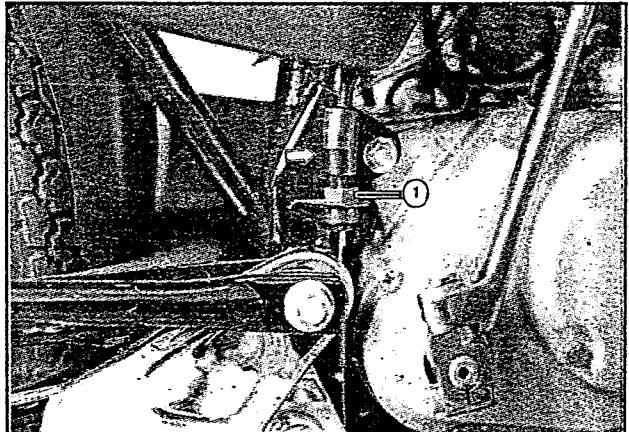

Fig 2.28
- The rear brake light switch is located under the right frame cover. To adjust brake light switch, raise or lower the switch by rotating the nut (1) (fig 2.28) so that the brake light will come on just before a pressure rise is felt when the brake pedal is depressed.